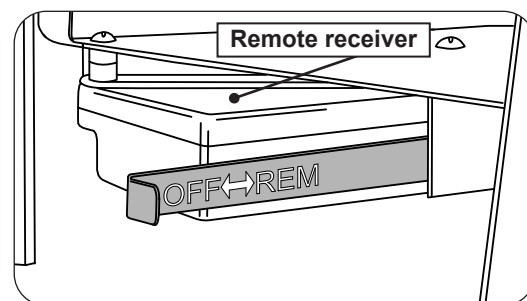

Fig. 33-2
2. Locate the OFF/REMOTE slide actuator on the left rear of the burner. Slide the actuator to the right / **REMOTE** position. See Fig. 33-2.